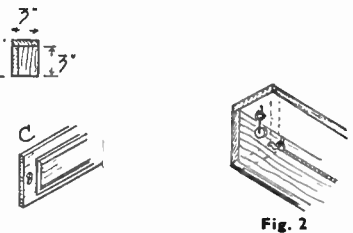
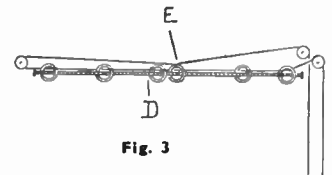

Fig. 2
Fig. 3
They are suspended from screw hooks, driven in the top part of piece (A) as near as possible to the spring rod and outside its ends, not inside. The detail sketch, Fig. 2, will help to make this point clear—it is really quite simple. Part (A) can then be screwed across the window frame, and is ready for the curtain arrangement to be fitted in. This is shown diagrammatically at Fig. 3, three rings only being shown to each curtain, for simplicity's sake, though actually several more will be needed, but